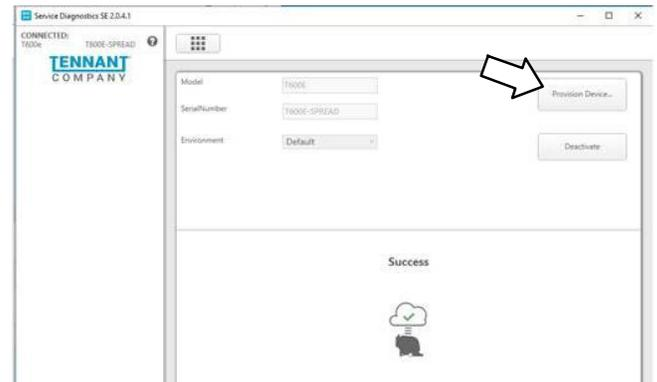

Fig. 16
- 11. Enter the model and serial number and click the Provision Device button (Figure 16). After "Success" appears return to the home page.